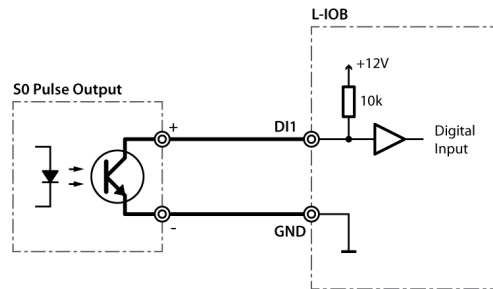

Figure 66: S0 pulse meter connected to DI
S0 pulse meters must be connected to digital inputs (DI) as shown in Figure 66.